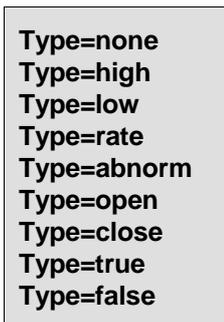

Figure 4-14 Alarm Type Menu
3. Use the UP (↑) or DOWN (↓) Arrow Keys to select the desired Alarm Number (1 through 5) and press **ENTER**. The display will show the alarm type menu with the current setting highlighted as in Figure 4-14.